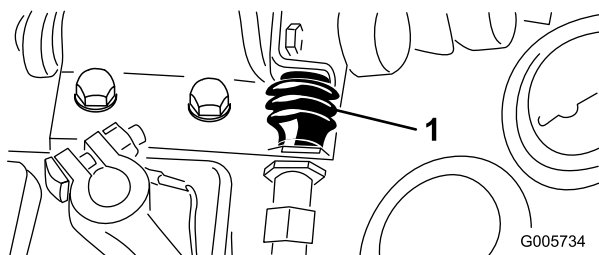

Figure 73
3. Remove boot from button end of PTO switch (Figure 73). Retain boot for reinstallation. Separate switch wire connectors.